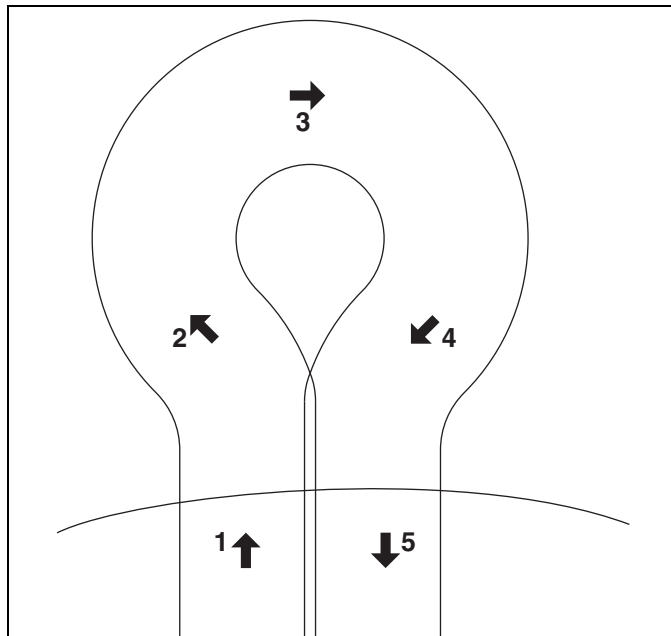

Figure 6E
- e. To turn to the right, start by turning mower slightly to the left (**2**). When the mower has moved approximately 1/2 its own width to the left, swing it around quickly to the right (**3 and 4**), guiding the mower with your right hand. This method makes it possible to turn around quickly with very few steps. **[Figure 6E]**